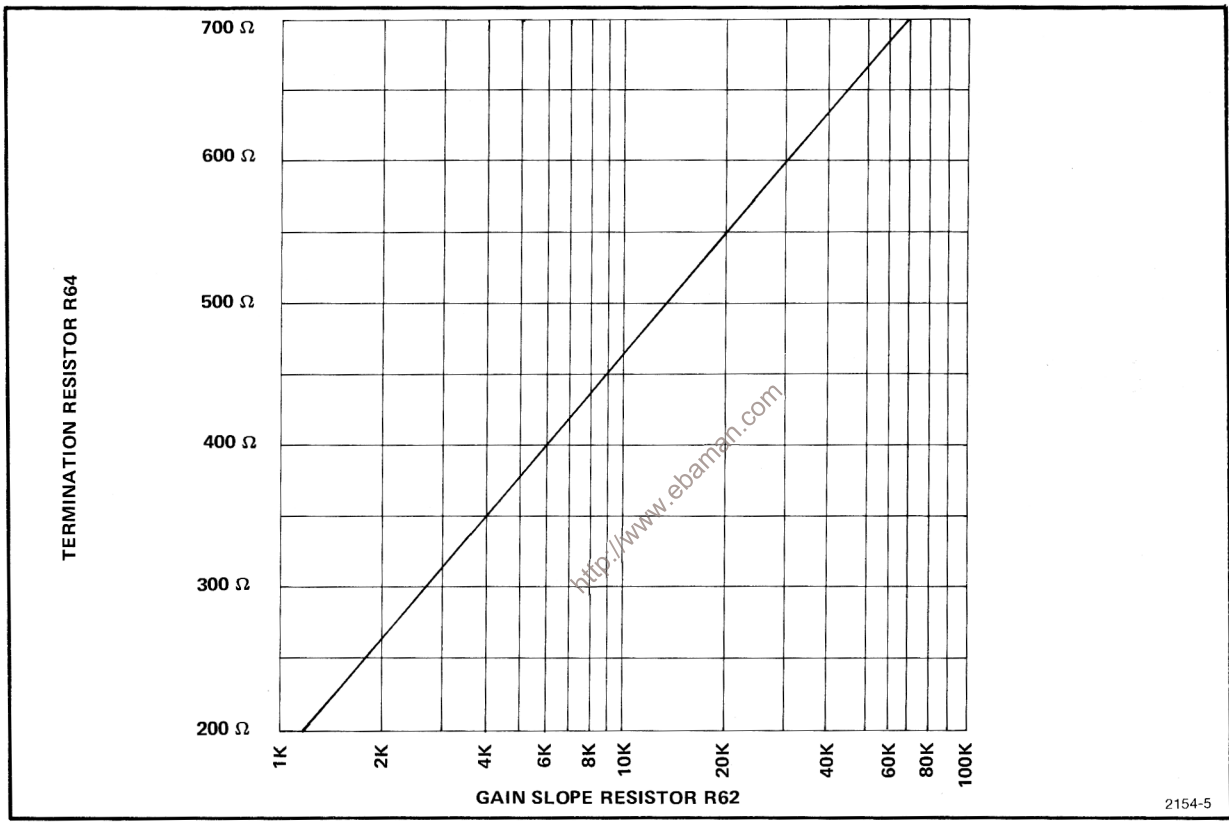

Fig. 4-2. Gain slope resistor R62 vs input impedance.
(1) Resistor R64 or R66, or both, are changed to terminate the input.
(2) Resistor R56 or R58 (W58 on schematic), or both, are changed to set the calibrator level in the 7L5 to provide the correct level for the input impedance selected (the calibrator output impedance remains at 50 Ω).
(3) Resistor R62 may be changed for high-frequency roll-off compensation. The value is determined from Fig. 4-2.
a. Select the gain slope resistor R62 value from the graph in Fig. 4-2 and replace.
$24.60\ \text{k}\Omega$. In step 4, part 1, the graph in Fig. 4-2 shows that $R62 = 4.0\ \text{k}\Omega$ (a standard value is $3.9\ \text{k}\Omega$, 5% resistor). In step 5, part b, for R66, $y = 10 (3 - \log 50) = 13.01$ and for R64, $x = 10 (3 - \log 350) = 4.56$.